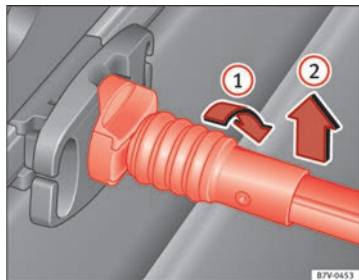

Fig. 99 Release the baggage net
- Rotate the attachment rod 90° to the right ⇒ Fig. 99  until you can see the red mark on the rod. Pull the attachment rod upwards .